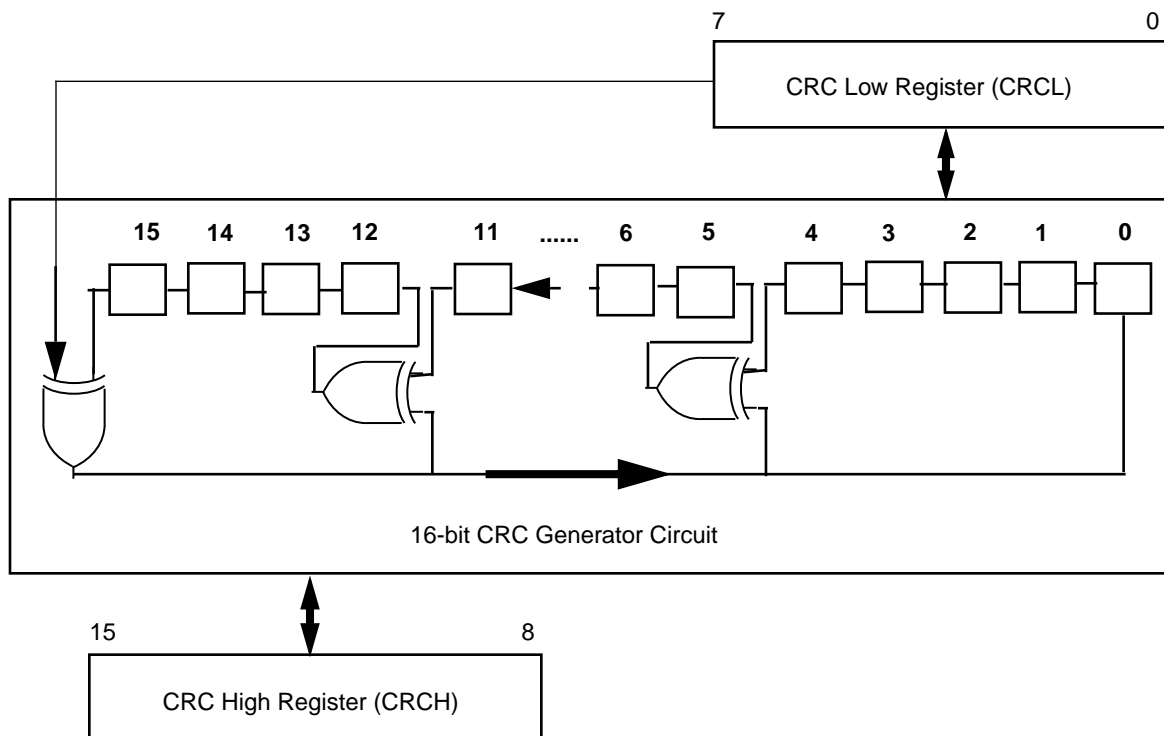

Figure 8-2. Cyclic Redundancy Check (CRC) Module Block Diagram
Figure 8-2 provides a block diagram of the CRC module.
- ITU-T V.41 implements the same circuit shown in Figure 8-2, but it recommends a SEED = 0x0000.
- ITU-T T.30 and ITU-T X.25 implement the same circuit shown in Figure 8-2, but they recommend the final CRC result to be negated (one-complement operation). Also, they recommend a SEED = 0xFFFF.